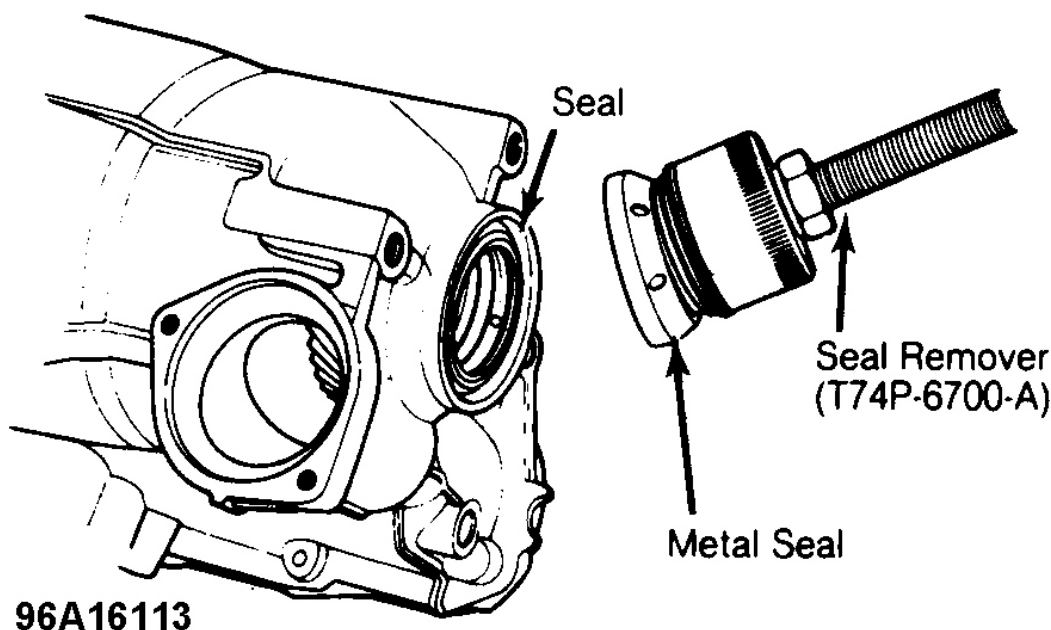

Fig. 7: Removing Output Shaft Seal
4. Install Shaft Protector (D80L-625-A) into right-hand output shaft opening. Screw output shaft Seal Remover (T74P-6700-A), into metal seal. Tighten screw on end of seal remover until metal seal protector is removed. Reinstall remover and repeat procedure to remove seal. See Fig. 7.
11. Place transaxle in vertical position. Remove and discard left-hand output shaft circlip. Screw Seal Remover (T74P-6700-A), into metal seal protector. Tighten screw of seal remover until metal seal protector is removed. Repeat and remove seal. See **Fig. 7**.